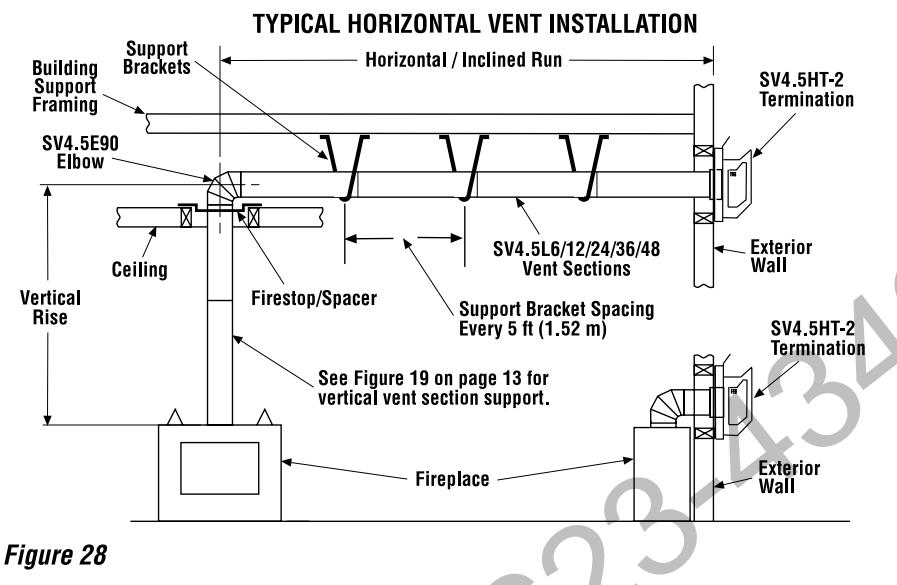

Figure 28
Figure 28, and Figures 31 to 33 on pages 16, 18 and 19 and their associated Horizontal Vent Table illustrate the various horizontal venting configurations that are possible for use with these appliances. **Secure Vent** pipe applications are shown in these figures; **Secure Flex** pipe may also be used. A Horizontal Vent Table summarizes each system's minimum and maximum vertical and horizontal length values that can be used to design and install the vent components in a variety of applications.
I. Continue installation of horizontal/inclined sections - Continue with the installation of the straight vent sections in horizontal/inclined run as described in **Step E**. Install support straps every 5 ft. (1.52 m) along horizontal/inclined vent runs using conventional plumber's tape. See **Figure 28**. **It is very important that the horizontal/inclined run be maintained in a straight (no dips) and recommended to be in a slightly elevated plane, in a direction away from the fireplace of 1/4" rise per foot (20 mm per meter) which is ideal, though rise per foot run ratios that are smaller are acceptable all the way down to at or near level.** Use a carpenter's level to measure from a constant surface and adjust the support straps as necessary.